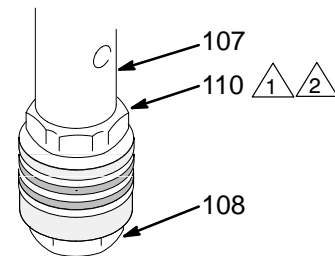

Fig. 21
- Hand tighten the valve into the piston rod just until the nut (110) contacts the rod. See Fig. 21.
- Place the flats of the rod (107) in a smooth jaw vise.
- CAREFULLY** tighten the nut (110) against the piston rod to 30 ft-lb (40 N.m). See Fig. 21.